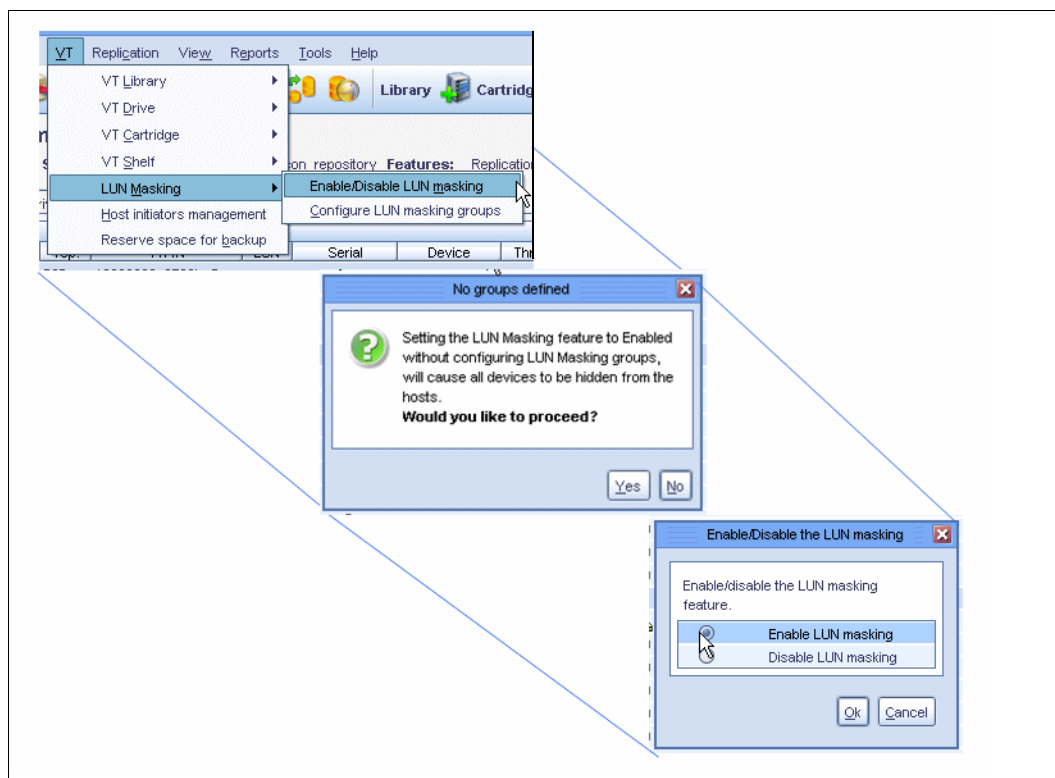

Figure 7-11 Enabling / Disabling LUN masking
3. When the Enable/Disable LUN masking window opens, select **Enable LUN masking**, and click **OK**, as shown in Figure 7-11.